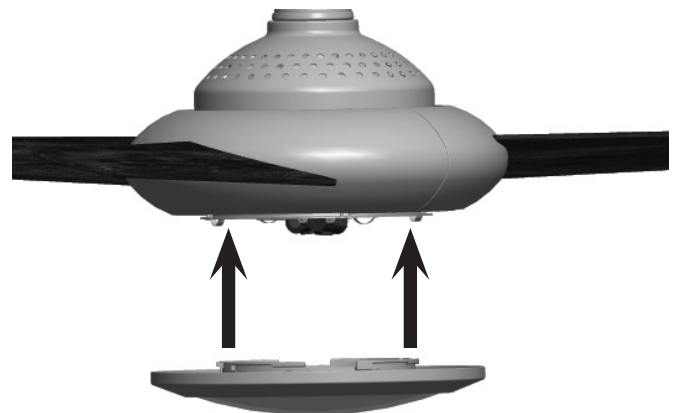

FIGURE 2.
**Step 3.** Carefully lift the glass shade up inside the light fixture as far as it will go. Figure 2.